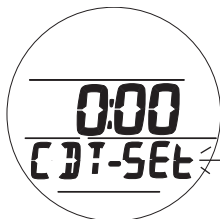

Fig. 113 - CDT STATUS
- A (< 2 sec) - to step up through OFF, ON, SEt (Fig. 113).
Set CDT, information includes (Fig. 113):